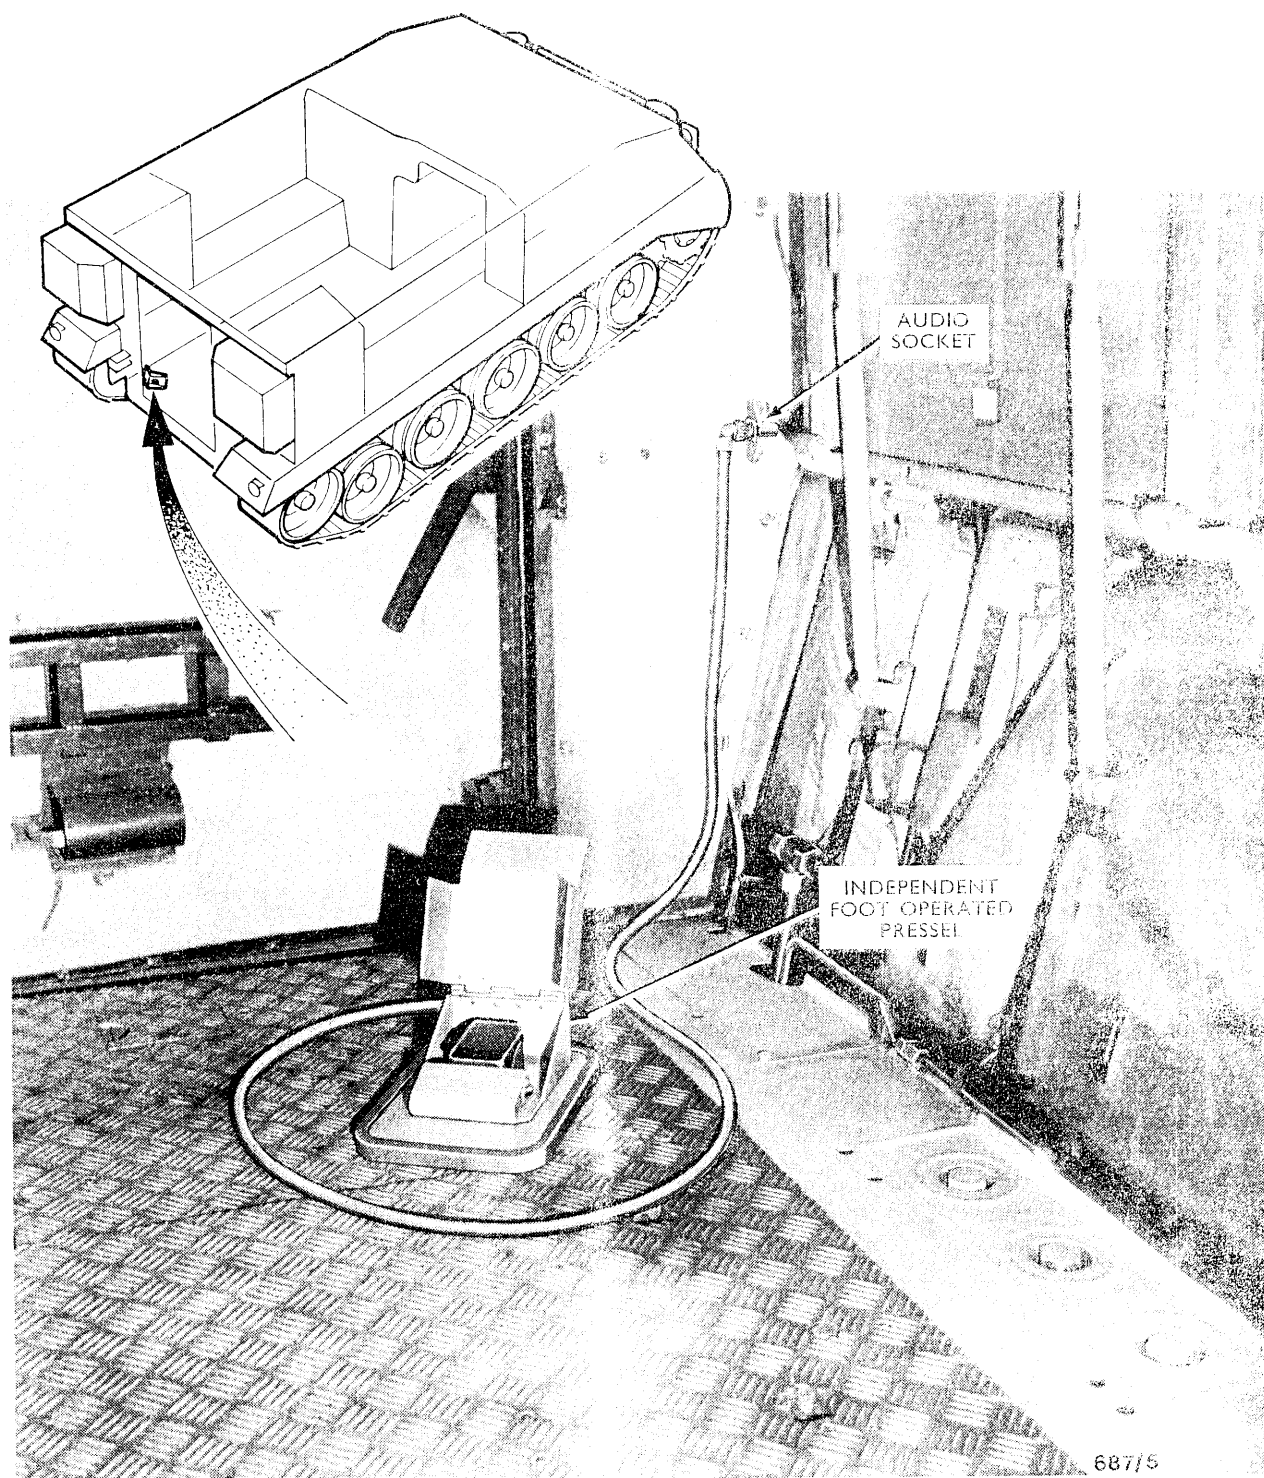

Fig 5 Audio Socket and Independent Foot-Operated Presser
- d. An audio outlet socket in the rear LH corner (Fig 5) for the connexion of either a foot pressel or crewman's headgear. (The socket is connected to the CB-2 above the rear door).
312. An audio outlet socket is fitted on the LH side of the rear door (Fig 5) when the Command Harness is installed. A foot-operated pressel is connected into the socket which in turn connects with the CB-2 located above the rear door, midway between the two loudspeakers. The audio socket can also be used for crewman's headgear.